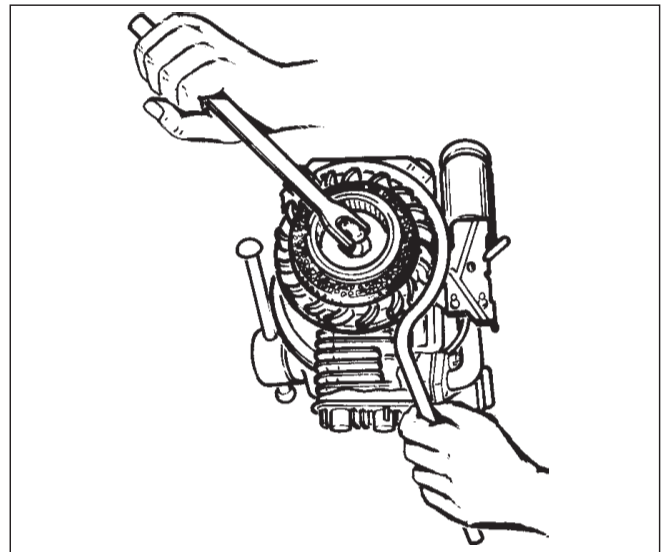

Fig. 3
- Remove flywheel nut and starter hub using strap wrench part number 670305 or 'C' spanner 670217 to prevent flywheel from turning (Fig 3).